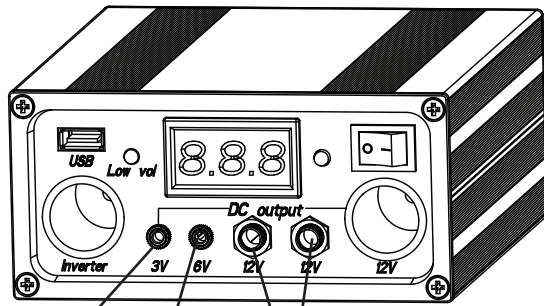

Figure 9
6. If the 12V Lights (18) aren't already attached to the sockets on the end of each light wire, gently snap them in.
7. Plug the other end of the 12V Light's wire into either of the 12 Volt DC outlets on the Charge Controller as shown in Figure 9, below.
13. To charge cell phone or other small electronic item, plug the item's power cored into the USB Port on the front of the Charger Controller. See Figure 9.
14. Use the Inverter Output and the 12V Female Output ports to connect the male adapters for 12V accessory items that need to be charged. See Figure 9, above.